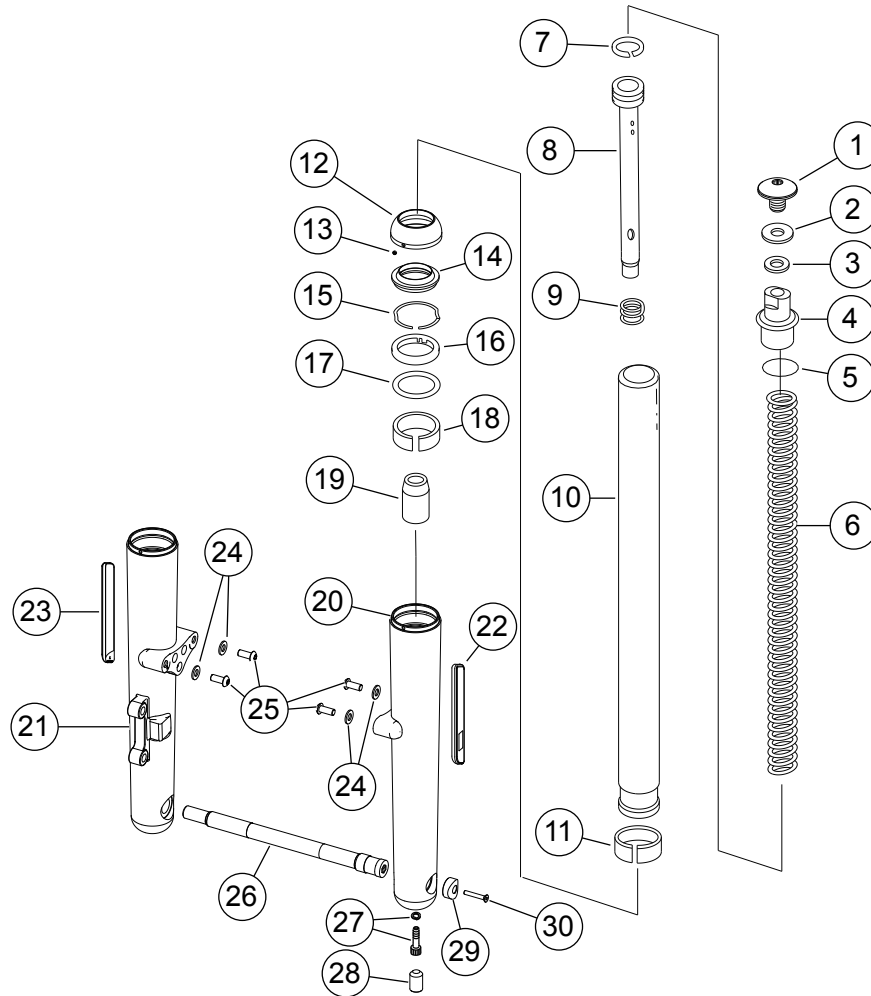

Figure 5. Service Parts for Chrome Front End Kit (Front Forks and Axle)
2. See Figure 5. Fasten the forks to the upper triple tree clamp using the seal (3), washer (2), and fork tube cap (1). Tighten cap to 54–81 N·m (40–60 ft-lbs).
3. See Figure 5. Apply a small amount of Loctite 243 (blue) to the four new fender mounting screws (25), then install the front fender to the the Billet Front Forks using the four screws (25) and four washers (24). Tighten screws to 20.3–24.4 N·m (15–18 ft-lbs)